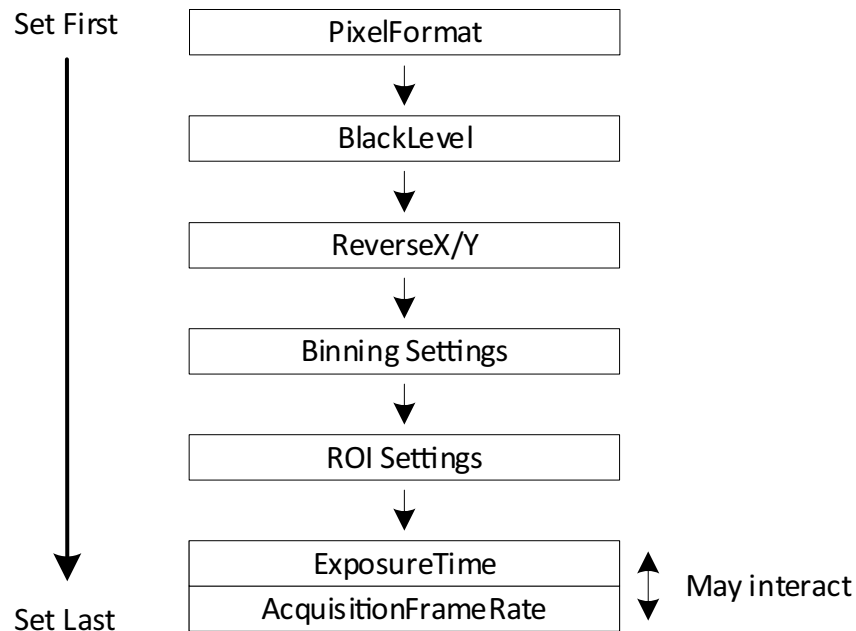

Figure 126: Interdependencies between controls
The conversion between time and clock cycles affects control values. Controls for pixel format, bandwidth, ROI, and exposure time are related to each other. Changing values for one control can change values for another control. For example, frame rates can be reduced when **MIPI Data Format** is changed subsequently. Figure 126 shows the interdependencies.
- To avoid readjustments, apply settings in the order shown in Figure 126.